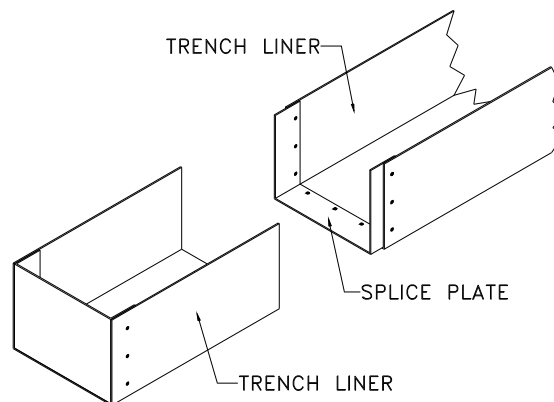

Figure 12
STEP 3. Place a mating section of the liner into its assembled position relative to the liner section already put into place (see Figure 12).